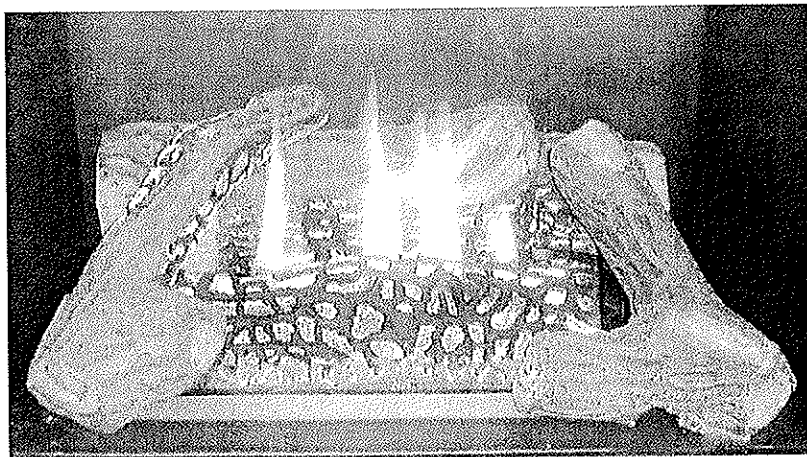

Figure 8
3. Allow the burner to operate for at least 15 minutes while observing the flame continuously to ensure that the proper flame appearance has been achieved (see *Figure 8*). If the following conditions are present, adjust accordingly.